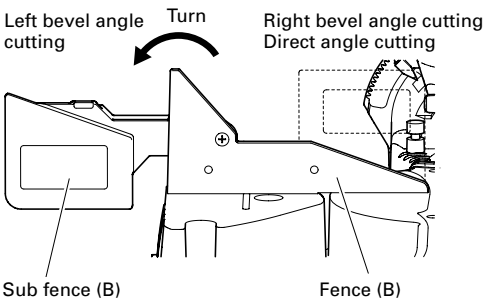

Fig. 11
This power tool is equipped with a sub fence (B). In the case of direct angle cutting and right bevel angle cutting, use the sub fence (B). Then, you can realize stable cutting of the material with a wide back face. In the case of left bevel cutting, raise the sub fence (B) up as illustrated in Fig. 11 and turn it counterclockwise.